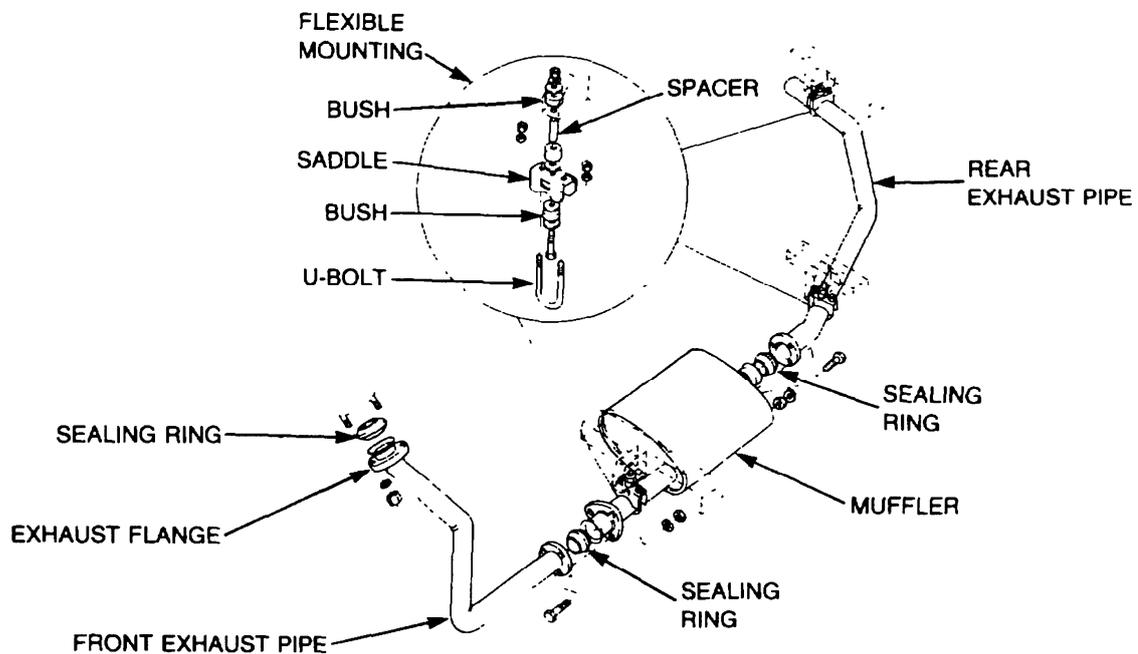

Figure 20 Exhaust System Exploded View
- Remove the three nuts and washers securing the front exhaust pipe to the exhaust manifold (Figure 20).
- Secure the muffler to the flexible coupling with the clamp (Figure 20).